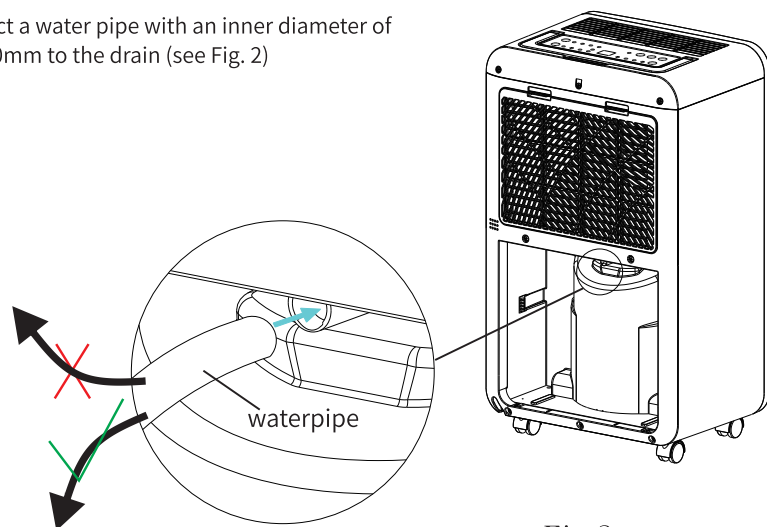

Fig.2
2.Connect a water pipe with an inner diameter of 11.5-12.0mm to the drain (see Fig. 2)
Note: In order to ensure the smooth drainage of water, the drain hose should be connected in place, as shown in Figure 2. The drain pipe should have a downward slope to ensure the smooth drainage of condensate; In very cold conditions, be alert to prevent freezing of drainage pipes